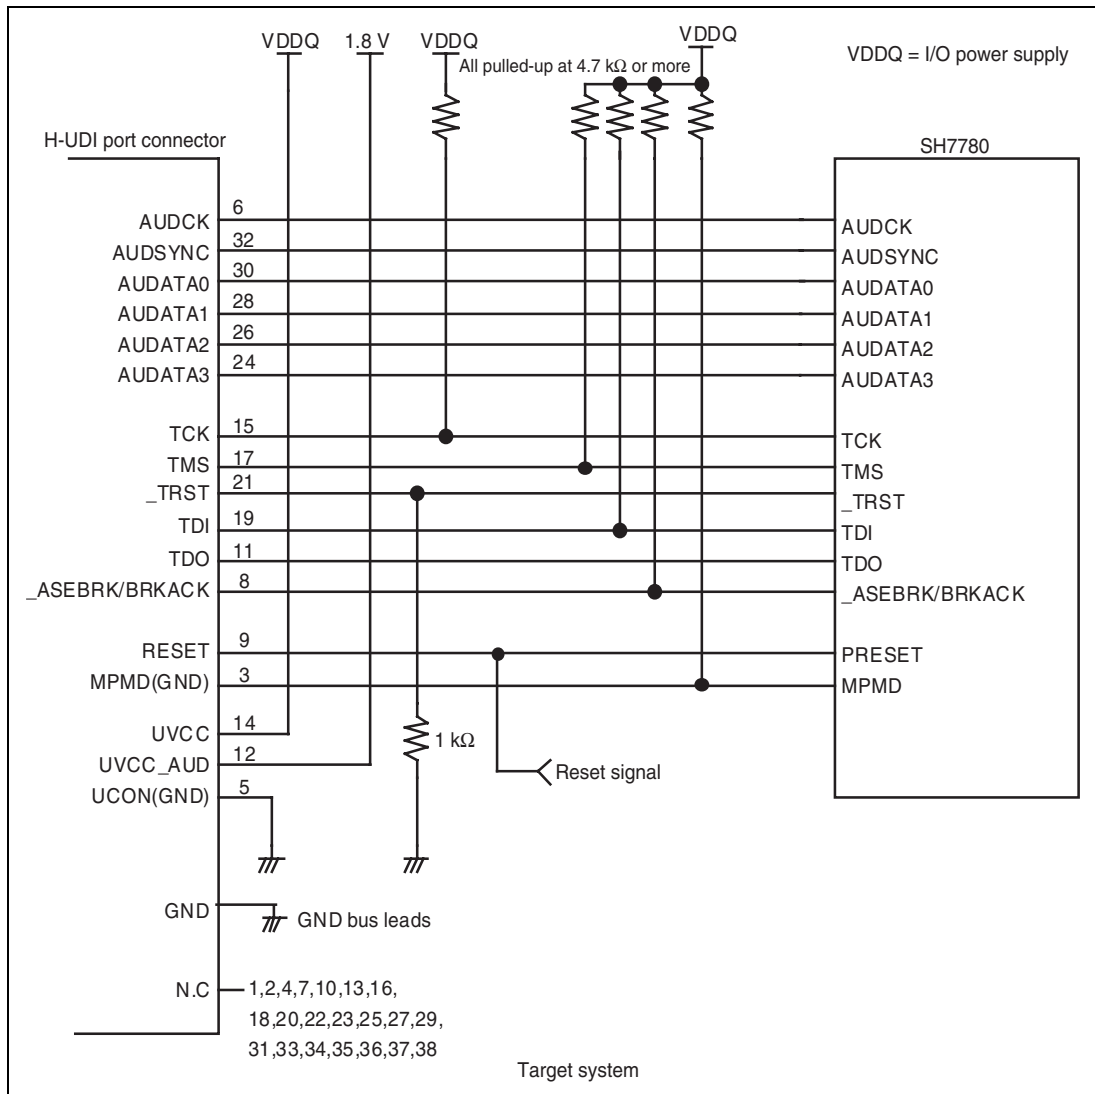

Figure 1.2 Recommended Circuit for Connection between the H-UDI Port Connector and MPU when the SH7780 E200F Emulator is in Use (38-Pin Type)
Figure 1.2 shows a recommended circuit for connection between the H-UDI port connector (38 pins) and the MPU when the emulator is in use.
- (1) When the emulator is used: $MPMD = 0$
- (2) When the emulator is not used: $MPMD = 1$Figure 1.2 shows an example of circuits that allow the MPMD pin to be GND (0) whenever the emulator is connected by using the user system interface cable.
7. The resistance value shown in figure 1.2 is for reference.